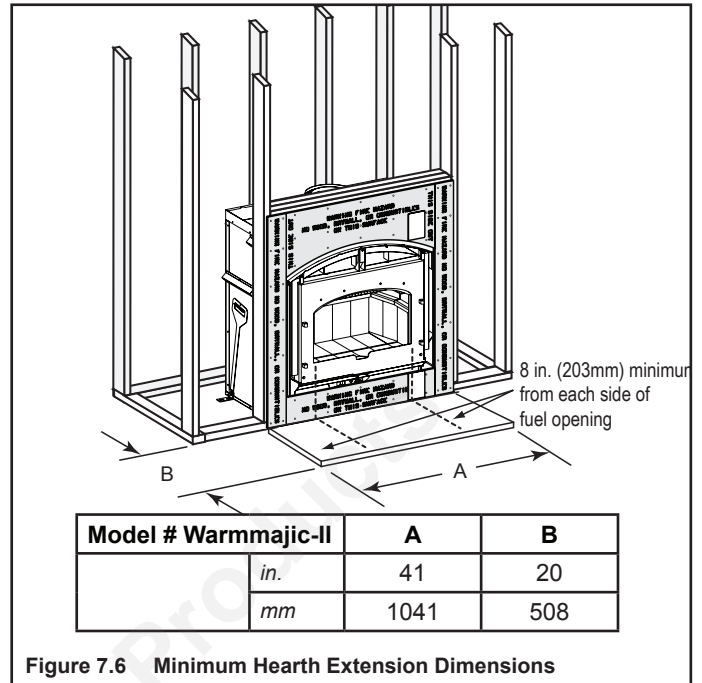
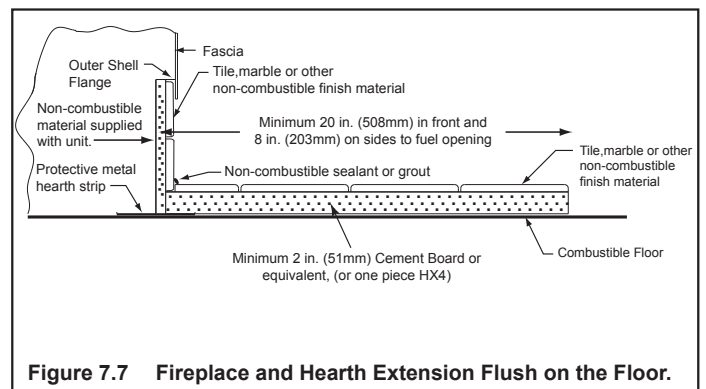

Figure 7.6 Minimum Hearth Extension Dimensions
Figure 7.7 Fireplace and Hearth Extension Flush on the Floor.
- Fireplace and Hearth Extension flush on the floor. Non-combustible flooring a minimum of 20 in. (508 mm) in front of and 8 in. (203 mm) to either side of the fuel opening is required as shown in Figure 7.6. The construction of, and materials used for a hearth extension are shown in Figure 7.7. A hearth extension of this construction may be covered with any non-combustible decorative material and may have a minimum thickness as per Figure 7.7. Seal gaps between the hearth extension and the front of the fireplace with a bead of non-combustible sealant or grout.
- Fireplace installed flush on the floor and hearth extension raised to bottom of fascia: Non-combustible flooring a minimum of 20 in. (508 mm) in front of and 8 in. (203 mm) to either side of the fuel opening is required (see Figure 7.6).